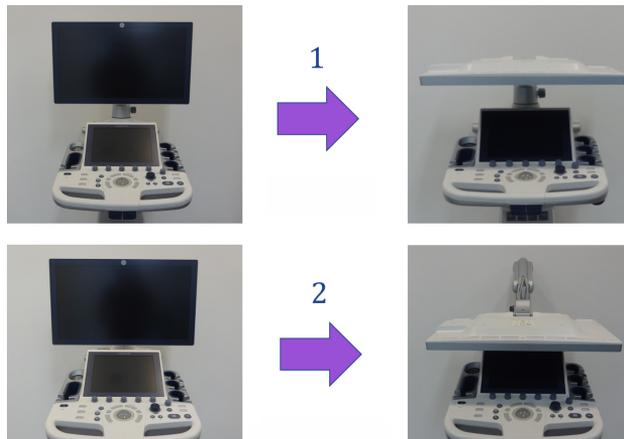

Figure 1-15. Monitor position for moving system
2. Adjust the monitor as shown in Figure 1-15 on page 1-22